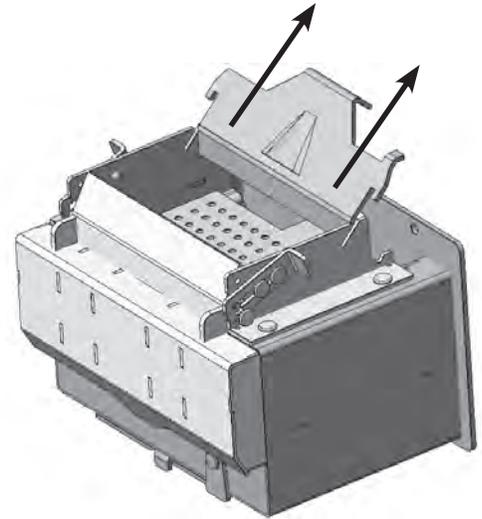

Figure 16
6. Begin by lifting upward on the Removable Ramp (Figure 16).